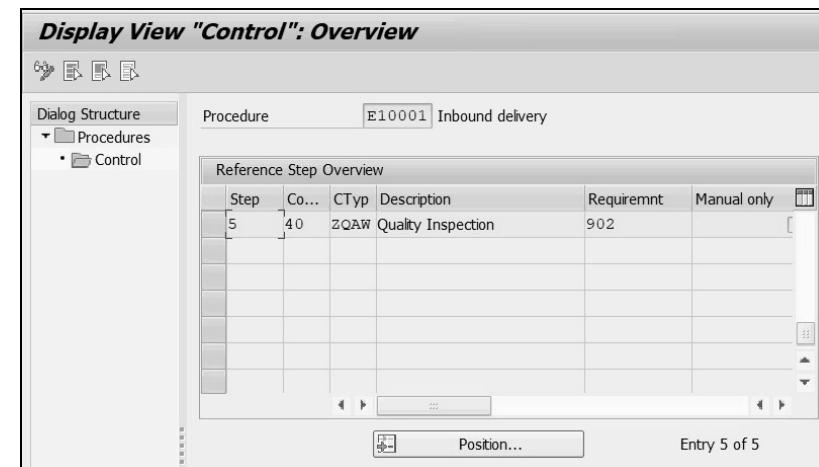

Figure 5.20 Addition of Custom Output Type to the Output Procedure along with Requirement Routine
4. Assign the output type to an output determination procedure by clicking on the **Procedures** button in Transaction NACE and then adding the output type under a suitable procedure (see Figure 5.20) Make sure this procedure is assigned to the relevant delivery type(s) in Transaction SPRO Customizing under **Logistics Execution • Shipping • Deliveries • Define Delivery Types**. Select your delivery type, and click the **Details** button. Then, enter the procedure name in the **OutputDet.Proc.** field. In
Figure 5.20, we've also maintained a requirement routine in the output procedure against our custom output type to restrict the output trigger after post goods receipt only.